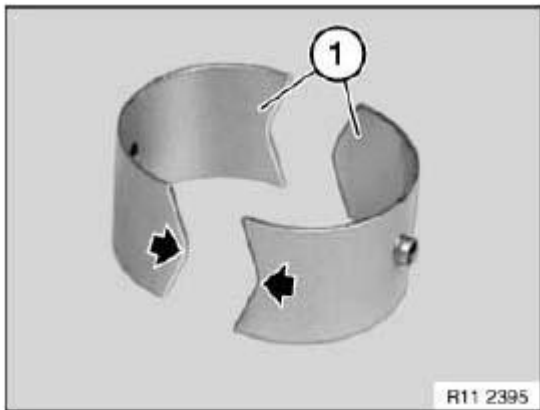

Fig. 234: Identifying Bearing Shells
Install bearing shells (1) in such a way that ends of bearing shells (1) face each other as shown in **Fig. 234**.